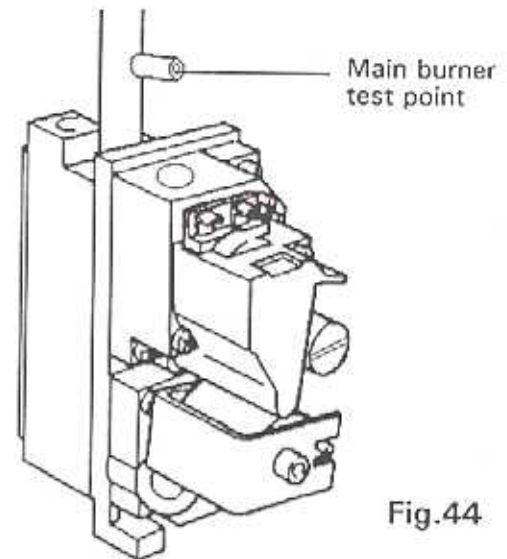

Fig.44
- 8.24.4 Locate the main burner pressure test point (Fig.44) and slacken the screw half a turn in an anticlockwise direction. Attach a suitable pressure gauge.